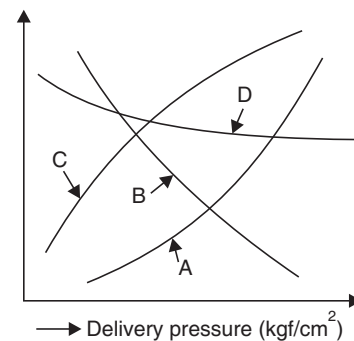

FIGURE 6.10
67. Figure 6.10 shows the typical performance curves of a water-cooled single-stage reciprocating air compressor. Which curve shows the variation of shaft power versus delivery pressure ?
68. In Fig. 6.10, which curve shows the variation of actual capacity versus delivery pressure ?
69. In Fig. 6.10, which curve shows the variation of volumetric efficiency versus delivery pressure
70. In Fig. 6.10, curve A shows the variation of